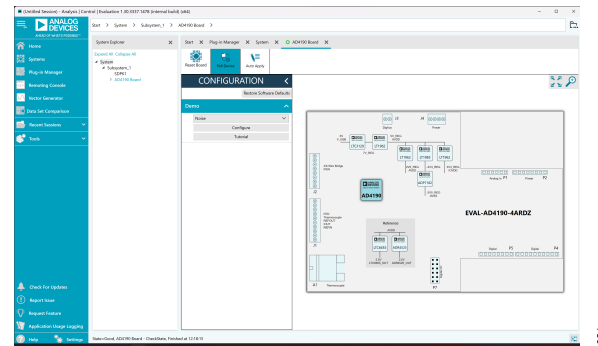

Figure 21. AD4190-4 Evaluation Board View
4. Double-click the **AD4190** chip icon in the **AD4190 Eval Board** view window to open the **AD4190** chip view window, as shown in Figure 21.